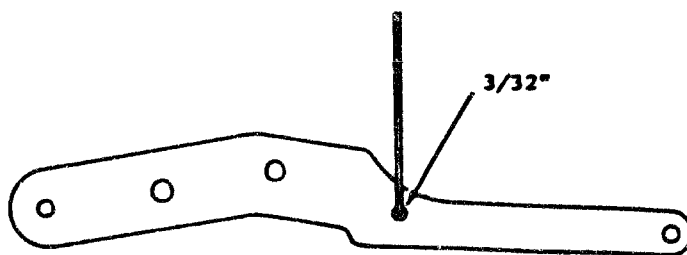

Fig. 2
3. Install spring into 3/32" hole in governor extension lever (fig. 2). If no hole exists, drill according to print attached.